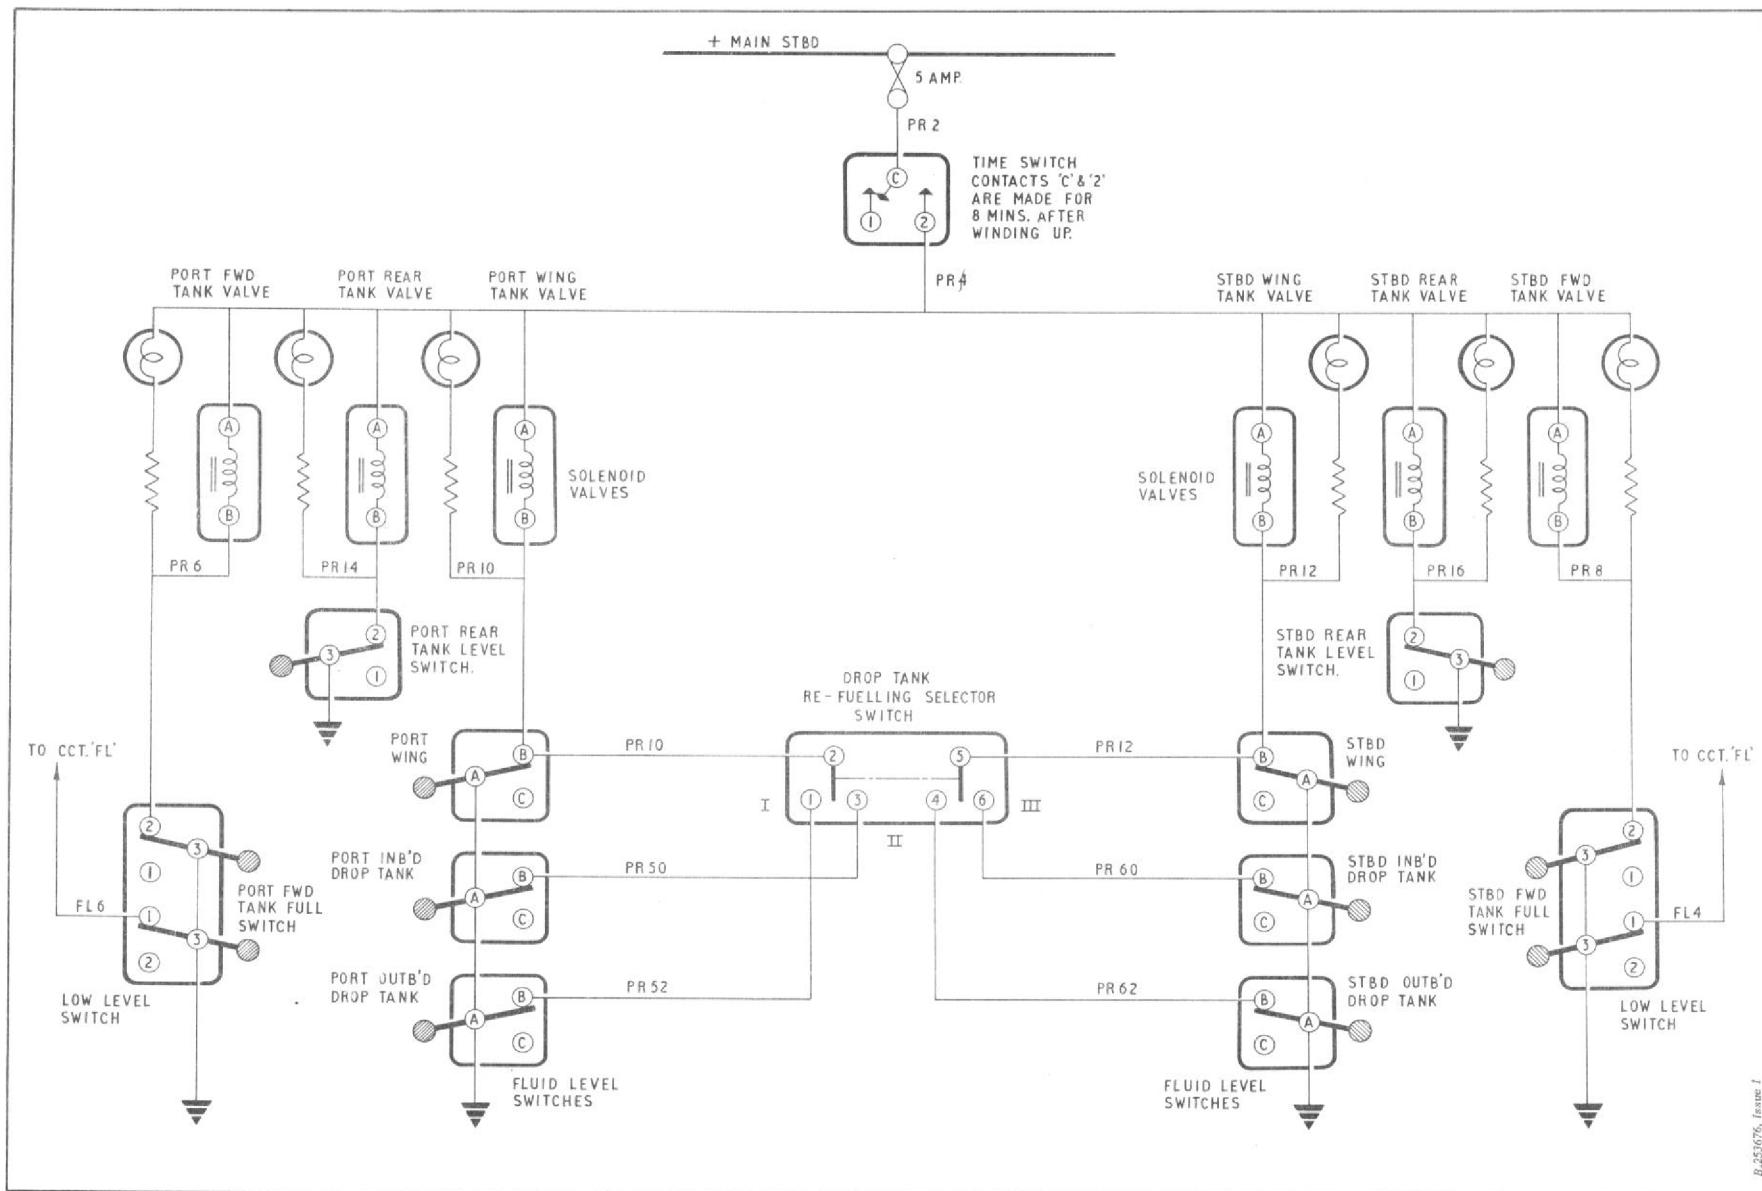

Fig.2. Pressure refuelling (theoretical)
11. The drop tank high level switches, referred to on fig.2, control the drop tank refuelling operation. The switches, which are located, one in each drop tank, are employed, when the drop tanks are installed, to maintain the wing tank refuelling valve solenoids energized and the valves open until the drop tanks are full. For the wiring outboard of T.B.28 and 34, reference should be made to Group G.1.